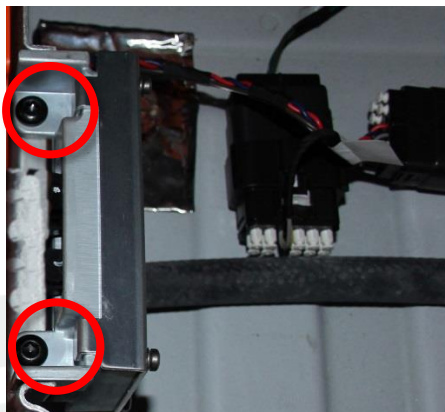

Figure 4
7. Install the 2 screws to secure the relay box to the HVJB (torque 8 Nm) (Figure 4):